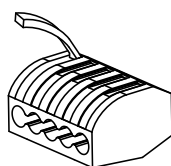

Fig. 1
1. Shut off power to the outlet box (A).
3. Determine the height at which each pendant is to be hung. Use the screwdriver (B) to loosen the set screw (C). Feed the power cords (D) through the bushings (E) on the canopy (F). Adjust the cord (D) to the desired length. Tighten the set screw to set.
4. Connect the fixture wires to the lever nuts (G) by pulling up on the lever for an empty slot (Fig. 1), inserting the wire, and pushing the lever back down to lock. The inner stranded conductor (H) and the outer braided conductor (J) on each cord (D) must be connected to separate lever nuts, as shown (Fig. 2). Reserve extra cords (D) and lever nuts (G) in the canopy (F). If shortening of the cords is necessary refer to Appendix A.
5. Attach cross bar (L) to the outlet box (A), secure with outlet box screws (M).
- a. Connect the LED driver's (K) live wire (black) to the live outlet box wire.
7. Attach canopy (F) to nipple (N), secure with washer and finial (P).